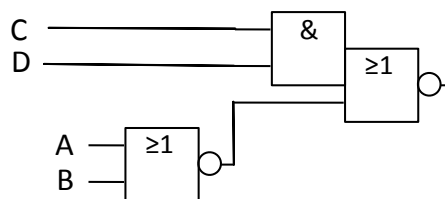

Figure 4: Another circuit made up from the same two logic gates.
- Consider the slightly different circuit in Figure 4 with four inputs. Calculate the logical effort for input A, g_A and the corresponding parasitic delay p , for this circuit. (4 p)